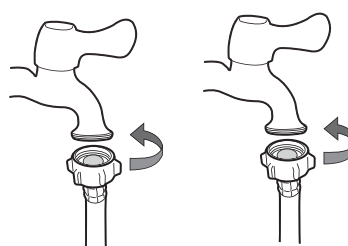

Figure 2
2. Respectively attach the water inlet hoses to the hot water faucet and the cold water faucet. ( As figure 2)